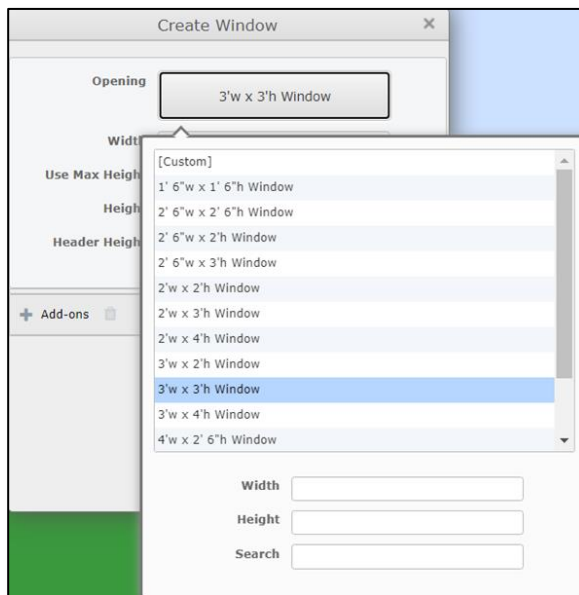

Figure 12: The drop-down list of available Windows.
**Opening** – Click on the *Opening* field to activate a drop-down list of the available Window options, as pictured in Figure 12 at left. You can either select an item from this list by clicking on it, or you can choose the *Custom* option to enter a *Height* and *Width* not otherwise available on this list.